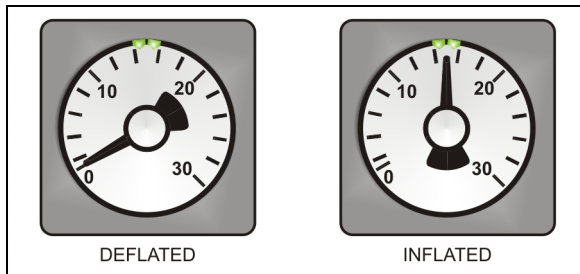

FIGURE 14: INFLATABLE SEAL PRESSURE GAGE
4. Finally, the inflatable seal can be re-inflated by turning the shut-off valve handle counterclockwise. Check the pressure gage on the inflatable seal regulator to see if the pressure increases to around 15 psi (Figure 14). Needle should be pointing between the two small green marks on the dial.
7. Finally, the inflatable seal can be re-inflated by turning the shut-off valve handle counterclockwise. Check the pressure gage on the inflatable seal regulator to see if the pressure is increasing to 15 psi (Figure 14).